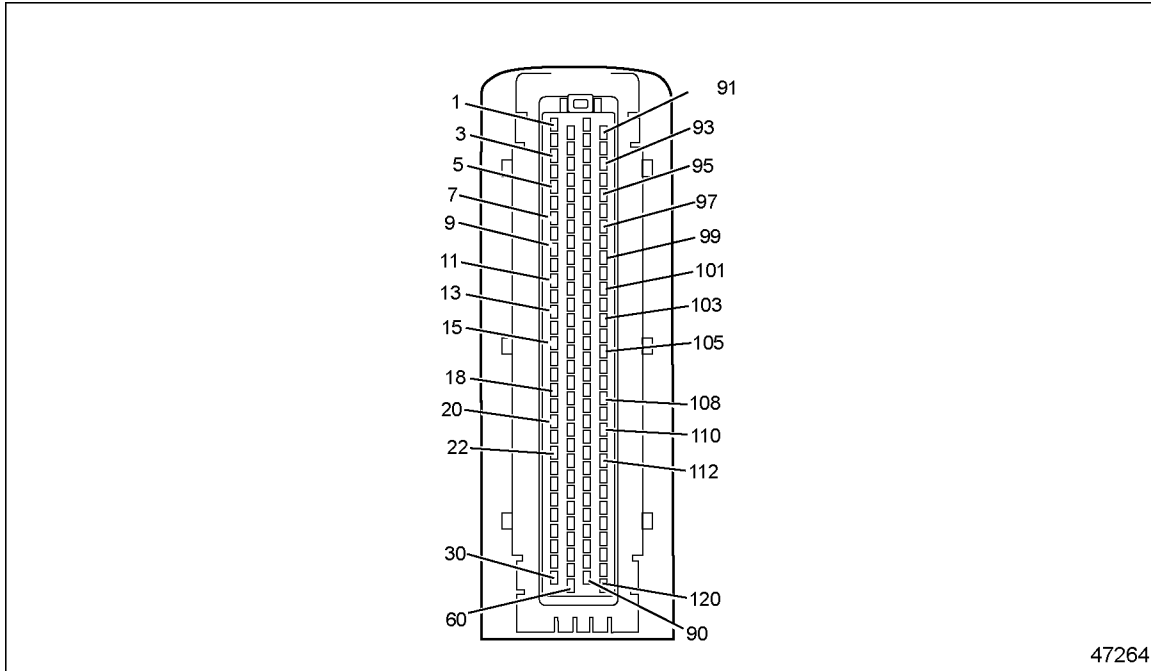

Figure 7-3 120-pin MCM Connector
- [a] If resistance is greater than 5 Ω, repair the short to power on wire 54 of the 120-pin MCM connector (see Figure 7-3). Refer to section 7.3.1.1.
- [b] If resistance is less than 5 Ω, repair the short between pins 54 and 82 of the 120-pin MCM connector (see Figure 7-3). Refer to section 7.3.1.1.